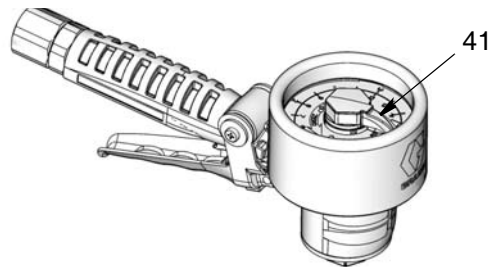

FIG. 9
1. Turn automatic twist lock nozzle (101) counter-clockwise to open nozzle. Insert nozzle into the fluid receptacle and pull the trigger (12).
2. Watch the meter pointer (41) on the meter dial (37) move. Release the trigger (12) when the desired amount of fluid has been dispensed.
3. Turn the meter pointer (41) counter-clockwise to return it to "0" before dispensing again. See FIG. 9